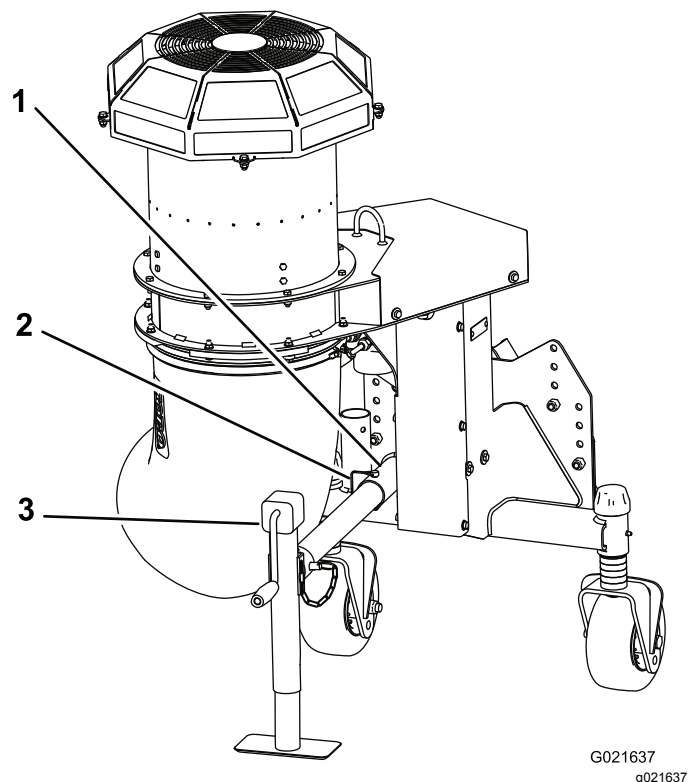

Figure 8
10. Insert the jack-stand tube into the frame tube, align the holes, and secure it into position with the snapper pin (Figure 8).